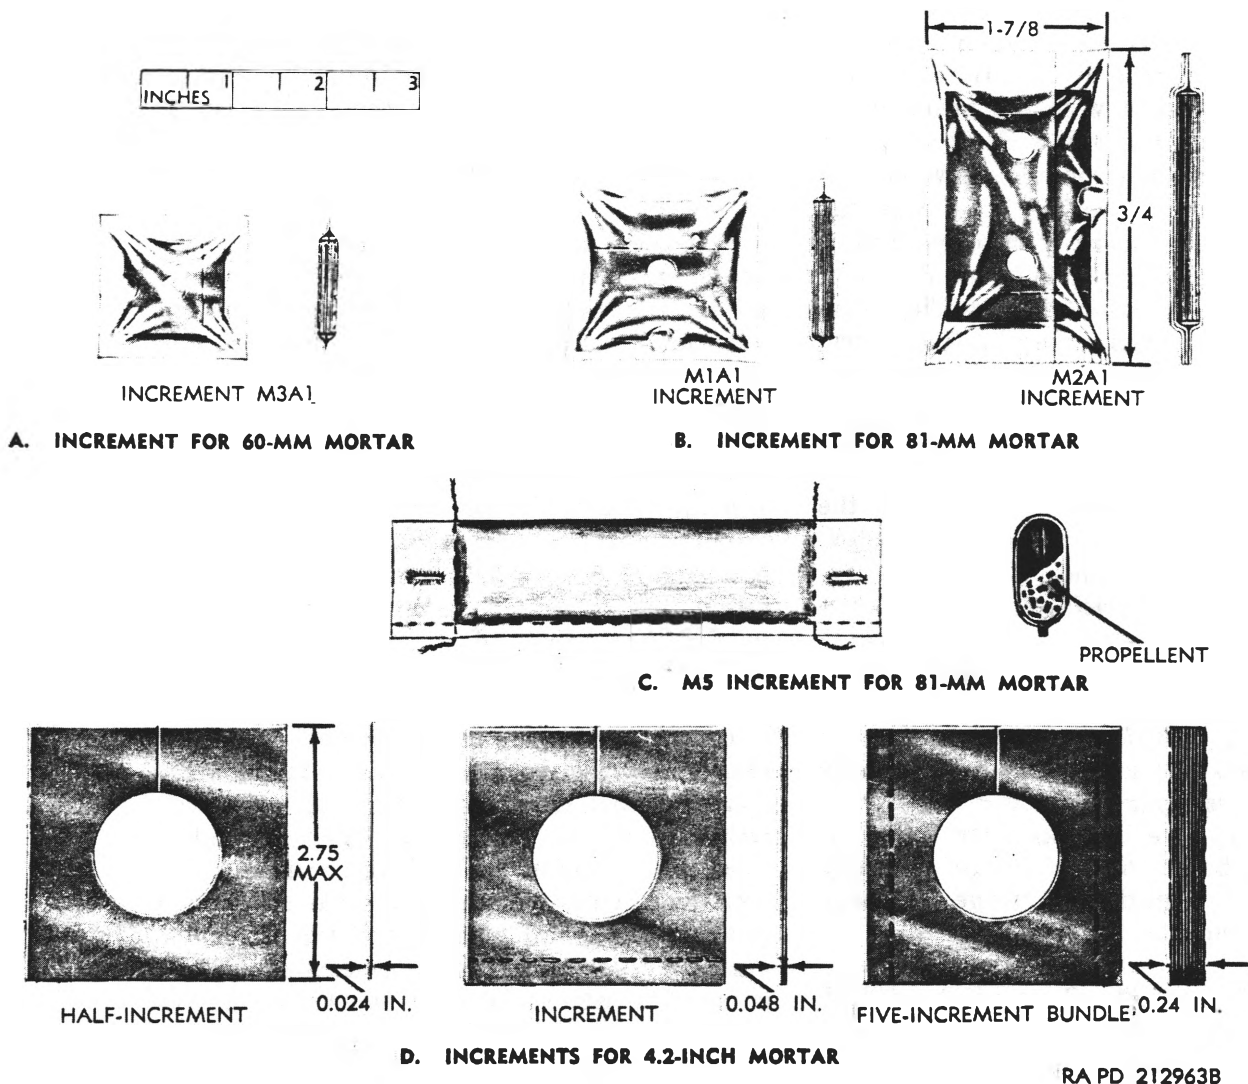

Figure 49. Increments for 60-mm, 81-mm, and 4.2-inch mortar cartridges.
the sheets are sewed together and are made up into bundles to predetermined weight and are sealed in cellophane envelopes (fig. 49). Propellant for the high-explosive cartridge M362 and the smoke cartridge M370, in flake form, is contained in a stitched urea-formaldehyde
and melamine-resin treated cotton cloth bag. Propellant for the 4.2-inch mortar is made up of square propellant sheets. A single sheet is called a "half increment"; two single sheets sewed together are called an "increment." Five increments (10 half increments) sewed together are called a "five-increment bundle" (fig. 49). The increments are manufactured in such a manner that they are accessible for adjustment prior to firing. See TM 9-1900 and TM 9-1910 for propellant compositions and forms of grains and increments.
*c. Identification.* Propelling charges for mortars may be identified by the markings on the container or by the type of increments (fig. 49).